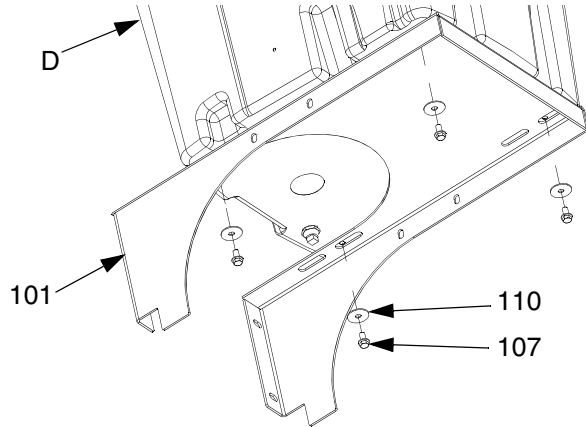

FIG. 9: Attach Hopper to Bracket
- Tighten hopper mounting screws (107). See FIG. 9.
- Install screws (107) and bottom support (109).